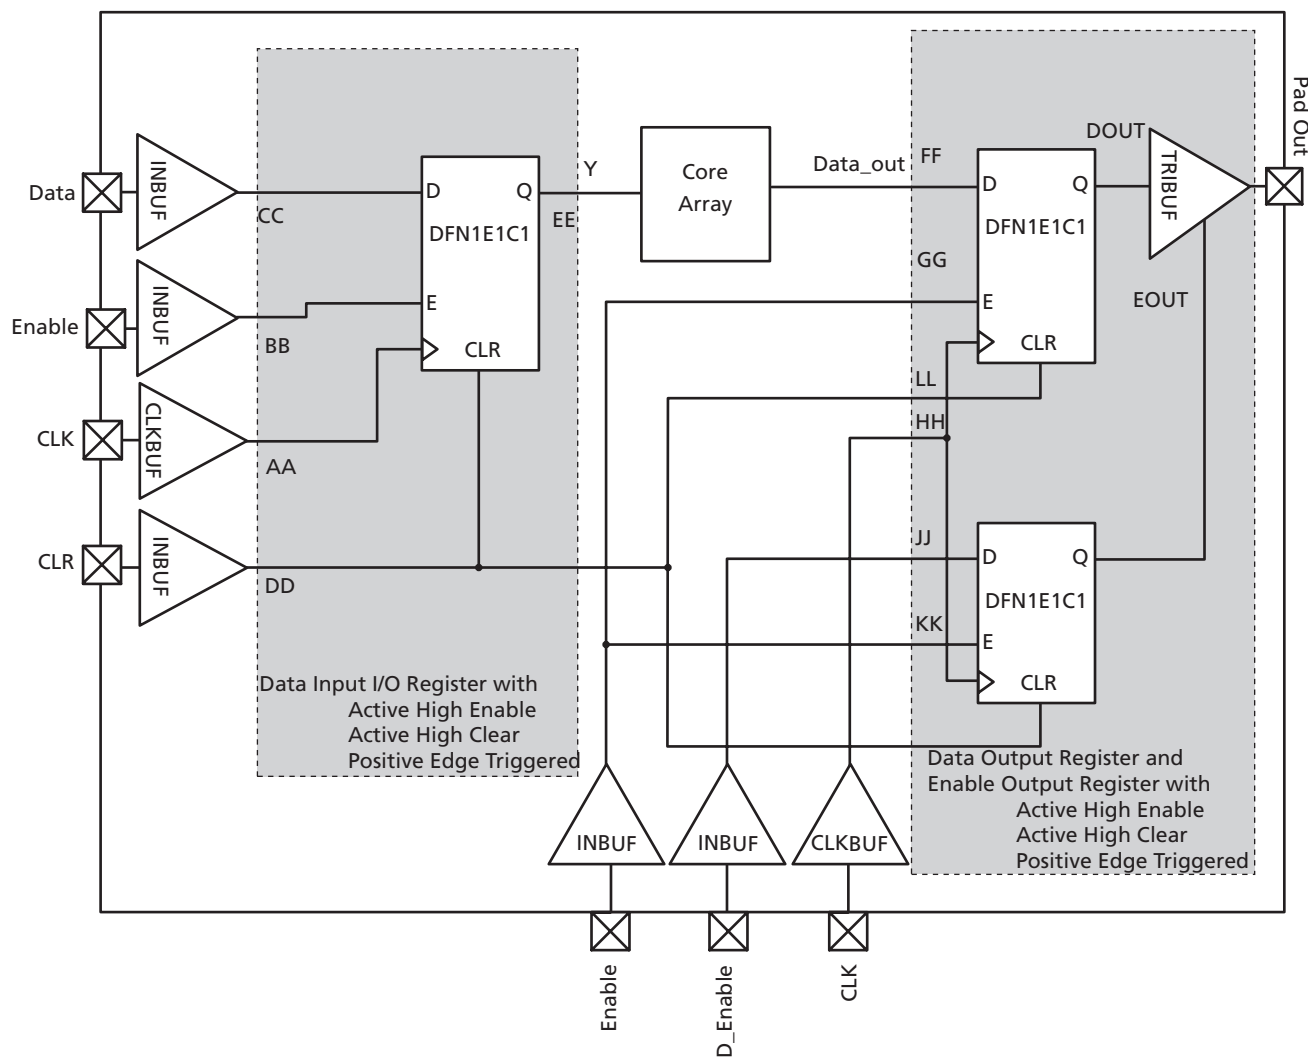

Figure 3-25 • Timing Model of the Registered I/O Buffers with Synchronous Enable and Asynchronous Clear
**Note:** \*See Figure 3-25 on page 3-51 for more information.